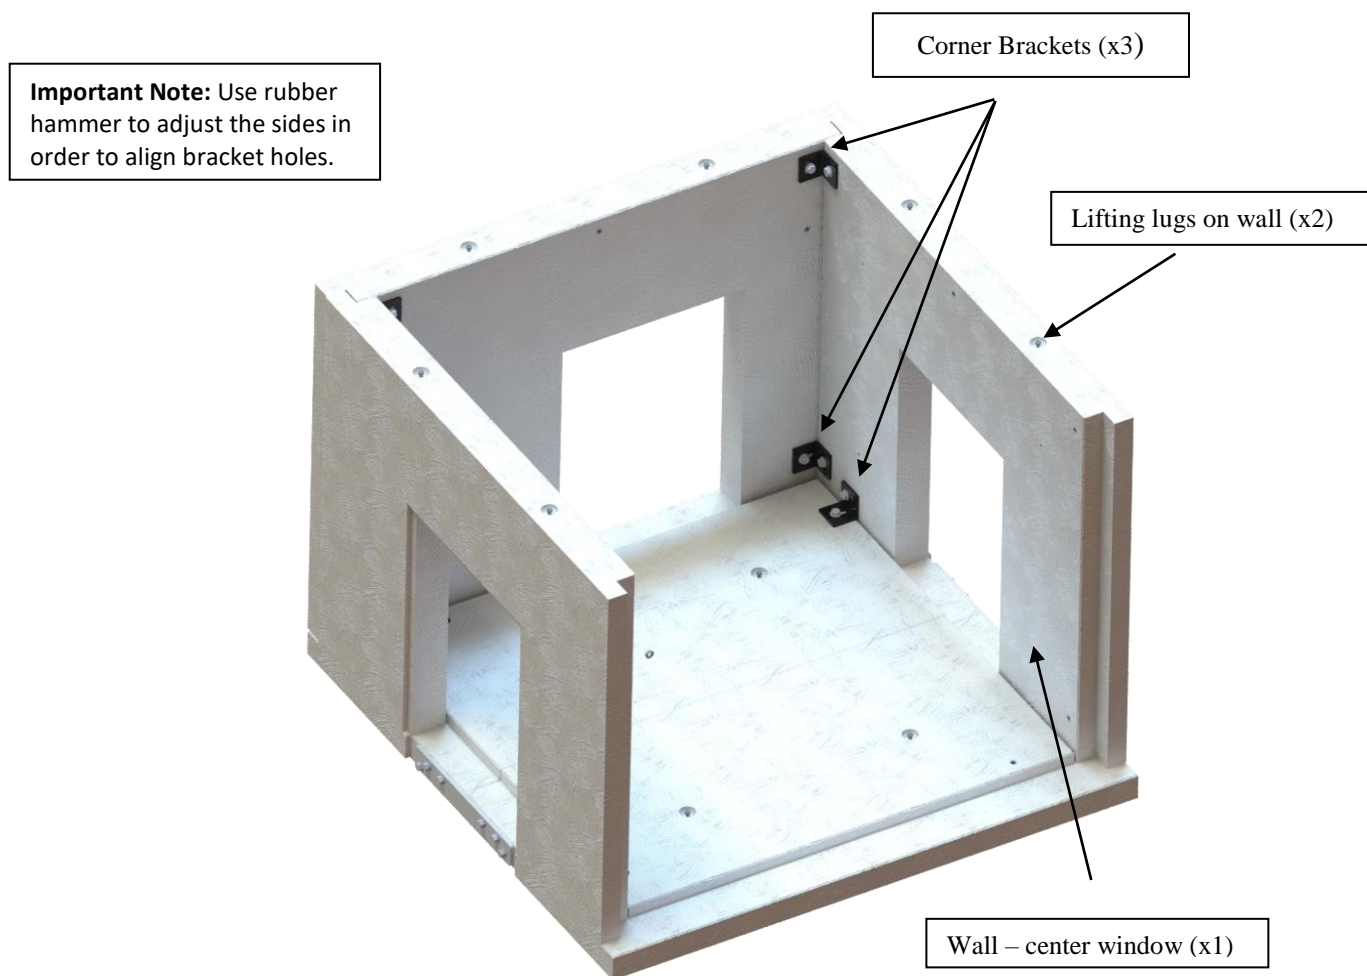

Figure 5
13. Connect to 2x lifting lugs and gently lift to the upright position and lower into the hole ensuring that it lowers onto the floor rebate as shown in Figure 5. Position Corner Bracket using M16 Hex Head Bolts and M16 Washers by aligning floor and side ferrules. Don't overtighten the bolts at this stage. Keep them loose so that the brackets can be adjusted accordingly.